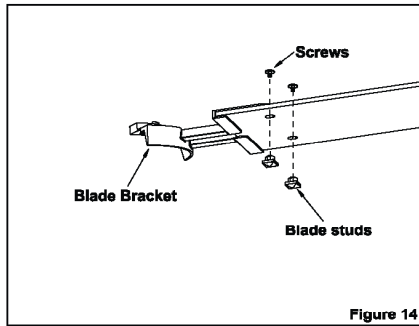

Figure 14
1. Attached blade to blade bracket using the screws and blade studs as shown in Figure 14. Start a screw and stud into the bracket. Repeat for the other remaining screws and studs.